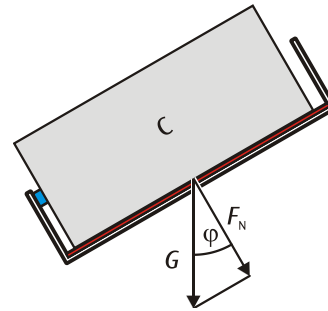

Fig. 2: Measurements with the friction track inclined.
- Incline the friction track 10° from the horizontal, ensuring that the rollers of block C rest on the downward-sloping narrow side of the friction track (see fig. 2) and measure the dynamic frictional force F_{dyn} .